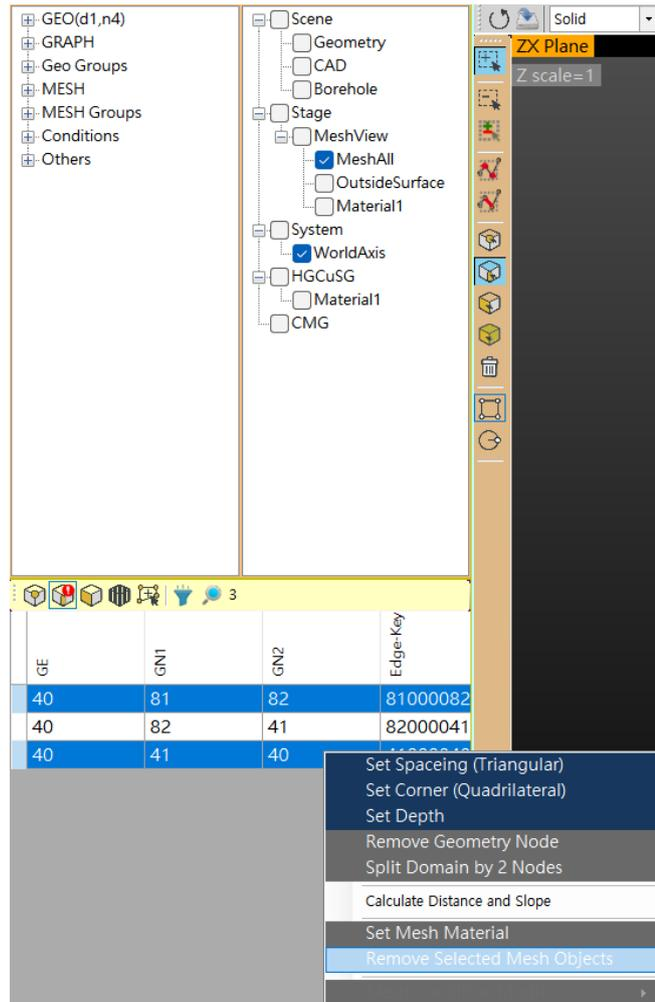

Figure 1.25. Panel view.
24. As seen in Figure 1.25, select the boundary sides (81, 82) and (41, 40), right-click, and choose 'Remove Selected Mesh Objects'. Then, in the appearing 'Warning' window, click 'OK'.